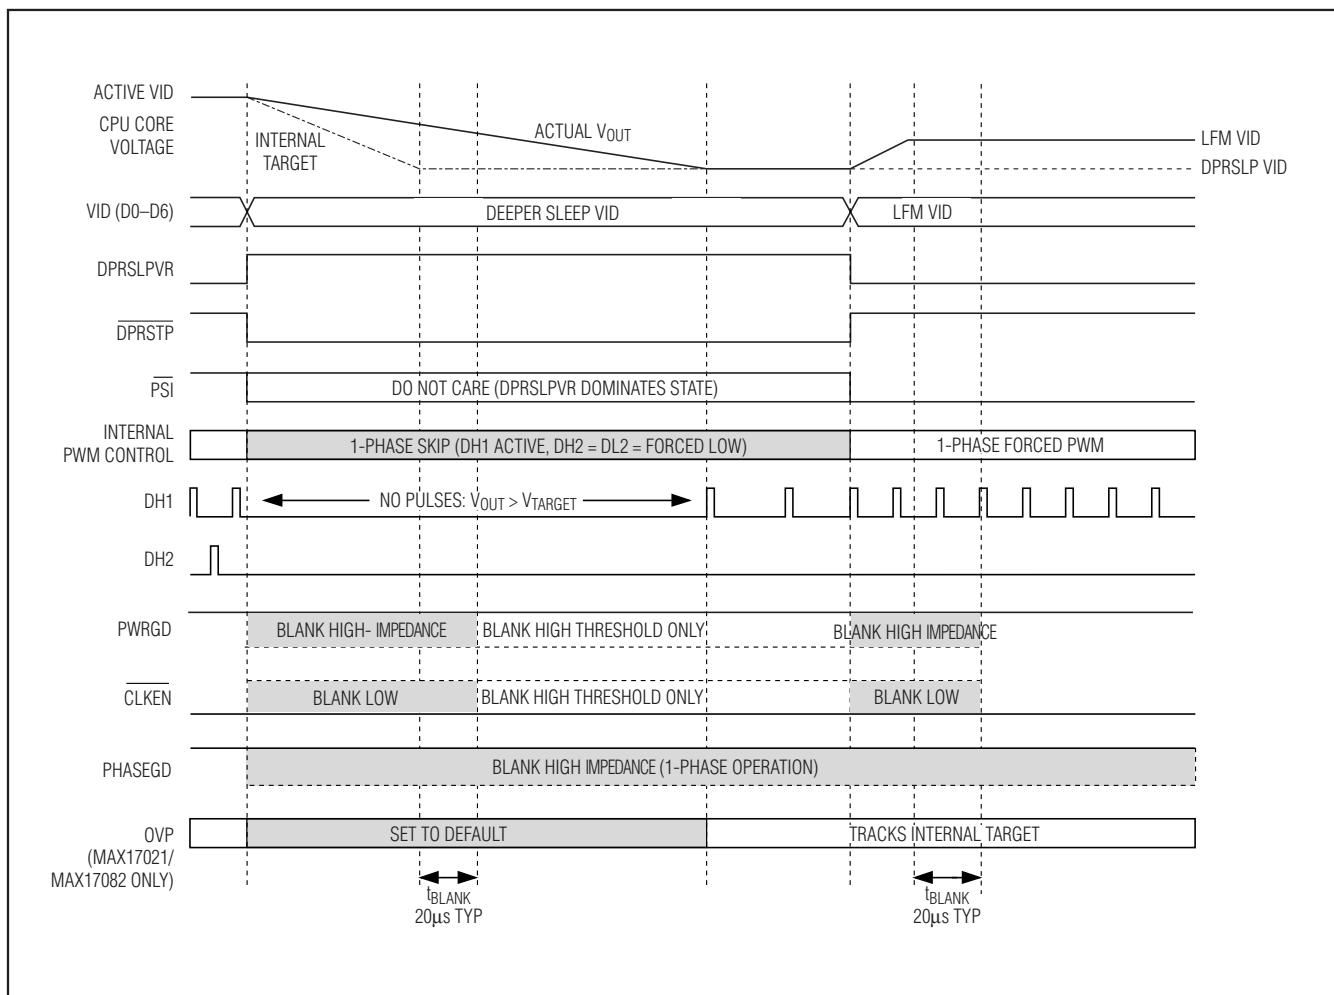

Figure 6. Standard C4 Transition
- **Standard C4 Deeper Sleep Exit:** When exiting deeper sleep (DPRSLPVR pulled low) while the output voltage is regulating to the deeper sleep voltage, the MAX17021/MAX17082/MAX17482 immediately activate all enabled phases and ramp the output voltage to the LFM DAC code provided by the processor at the slew rate set by RTIME. The controller blanks PWRGD, PHASEGD, and CLKEN until 20 μ s after the transition is completed. See Figure 6.